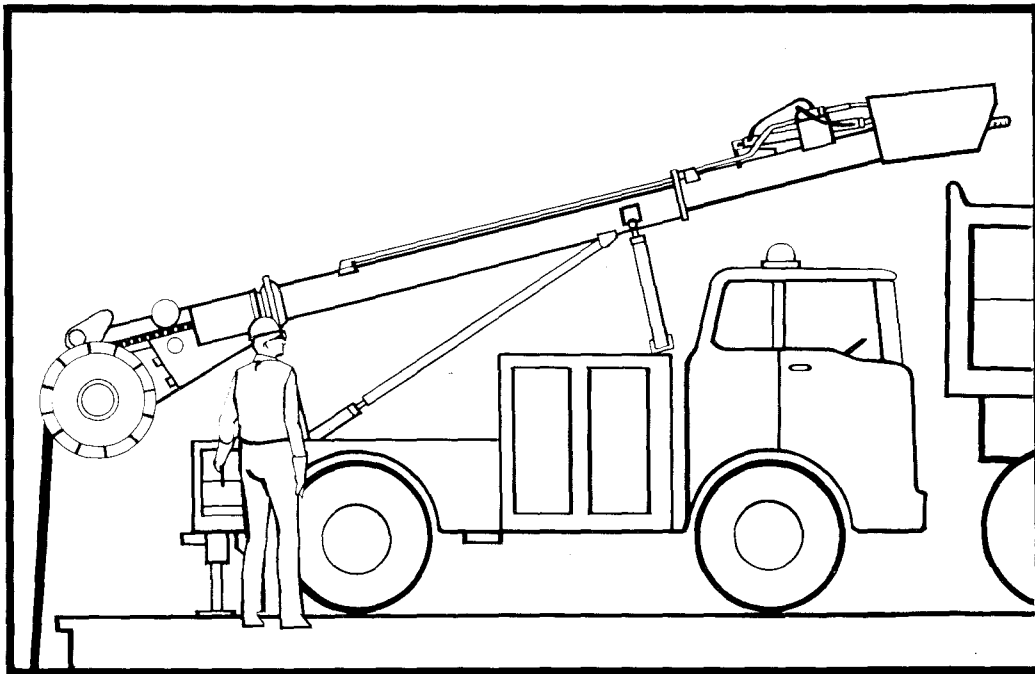

Fig. 14—Starting the Shear
4.15 Advance the cable end up the boom. When the cable end appears out of the discharge end, push the SHEAR ON button (Fig. 14). The speed of the pulling head now must be synchronized with the speed of the shear by "metering" the POWER HEAD valve. The necessary power head speed adjustments are determined by observing the POWER HEAD pressure gauge and the CABLE